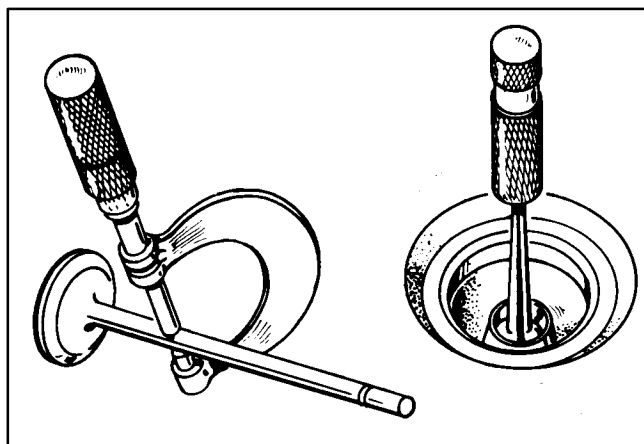

FIGURE 37. VALVE STEM AND VALVE GUIDE BORE DIAMETERS
**Valve Stems and Guides:** See Figure 37. Check valve stems and guides for wear. Use a hole gauge to measure the valve guide bore diameter. When valve clearance with the stem exceeds the original clearance by 0.002 inch (0.05 mm), replace either the valve or guide or both, as necessary. Always regrind the seat to make it concentric with the newly installed guide.